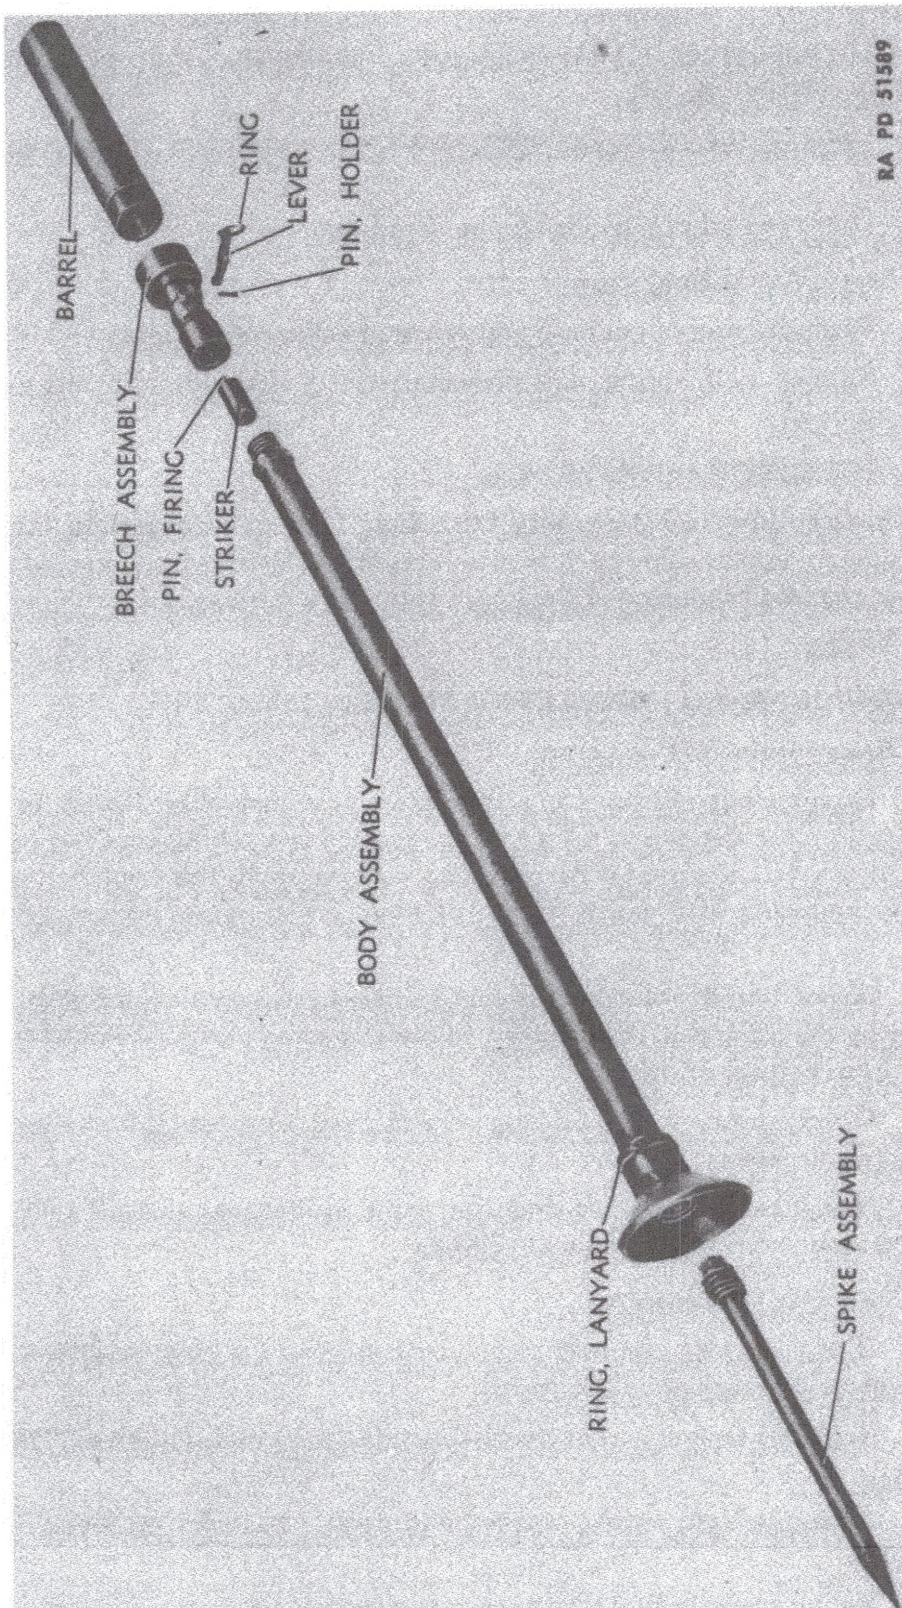

Figure 13 — Projector, Signal, Ground, M1A1 — Parts
5. GROUND SIGNAL PROJECTOR M1A1 (fig. 13).